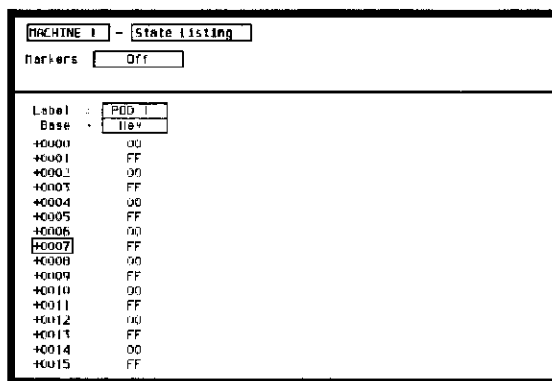

Figure 3-17. State Listing for Data Test 3
6. Press **RUN**. The **State Listing** is displayed and lists alternating Fs and 0s as in figure 3-17, if test has passed.